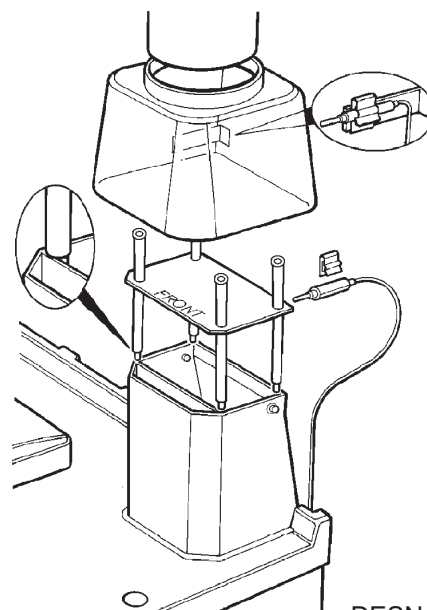

FIG. 3
1. Draught Diverter - See Fig. 3.